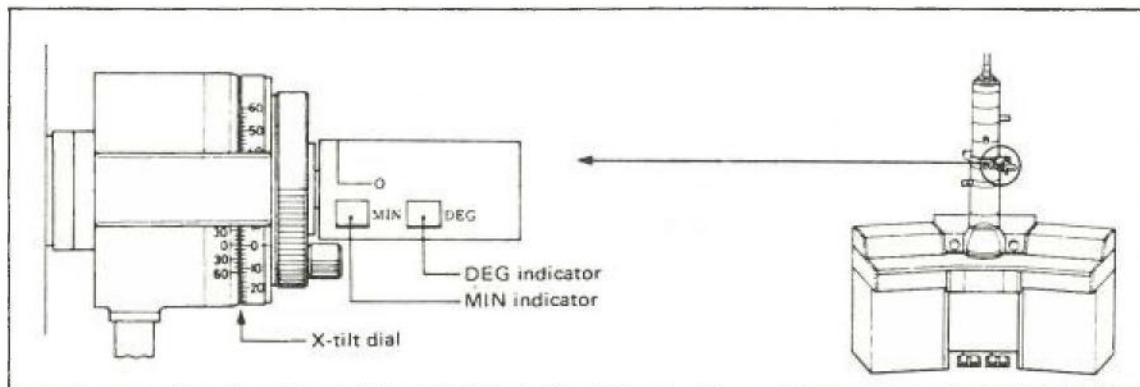

Fig. 4.1 X-tilt dial and Y-tilt indicators
2. Select a specimen tilt speed with the Y-tilt/rotation speed control knob and use the Y pedal switches so as to obtain DEG and MIN indicator readings of 0° (see Fig. 4.1).